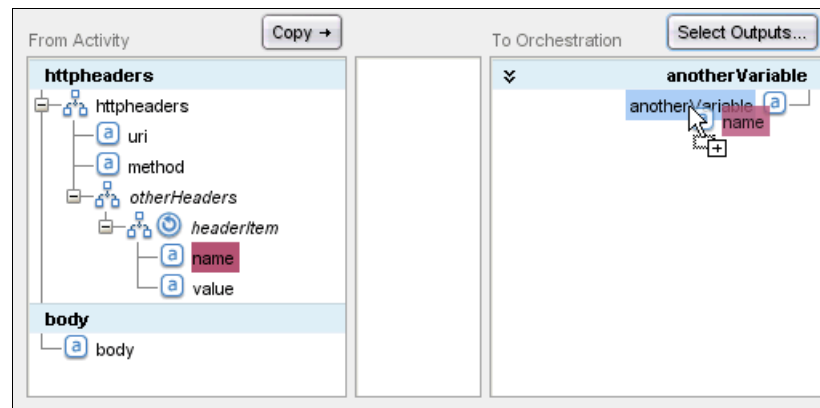

Figure 3-79 Defining a simple mapping for one occurrence of a repeating field
3. Drag the children of the repeating node to a non-repeating destination field node, as shown in Figure 3-79, to define simple mappings for those field nodes.